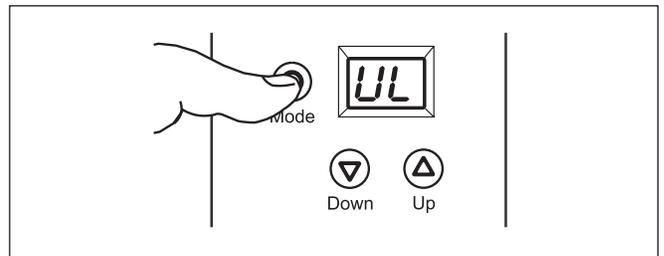

Figure 7
1. Unlock the Keyboard. Press the  button until reaching the UL menu (Figure 7).